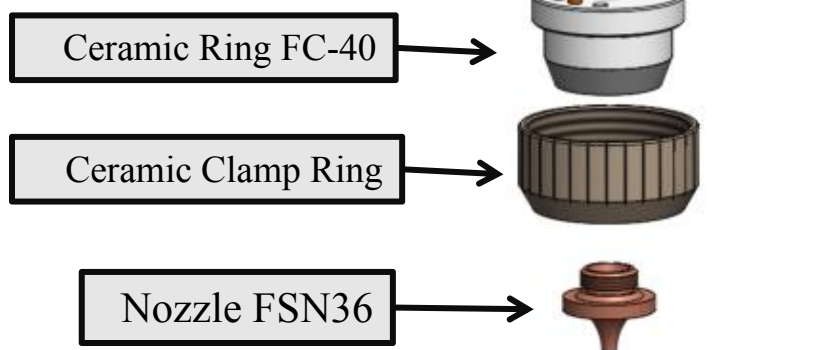

Figure 4.1
- ① Dry and clean auxiliary gas should be used when cutting. If there is water, oil and other impurities in the gas, the mutations may occur at working clearance, even causing work disorder of the sensor. It is suggested to use high purity oxygen and configure the gas dryer, oil-water separator and other devices.
- ② The sensor should be cleaned after being defaced, with clean and dry cotton wipers. Do not use liquid to clean the cutting head and ceramic, and then connect to the proper assembly after cleaning.
- ③ The ceramic body can be replaced after being damaged. Initialization of electrical system together with the amplifier should be conducted through a reset operation.
- ④ Prescriptive cutting nozzle should be used because the shape and size of it would directly affects the characteristics of the sensor.
- ① Remove the nozzle counterclockwise, as shown in Figure 4.1.
- ② Remove the ceramic clamp ring counterclockwise, as shown in Figure 4.1.
- ③ Remove the ceramic body vertically downward, as shown in Figure 4.1.